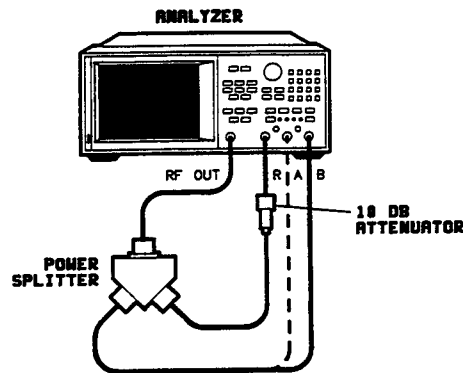

Figure 7. Receiver Harmonics Test Setup
12. Connect the equipment as shown in Figure 7, with the cable connection to input B.